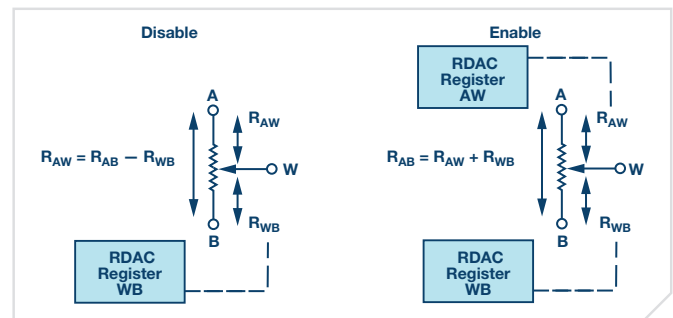

Figure 10. Linear gain setting mode.
- ▶ The new patented linear gain setting mode allows controlling the potentiometer as two independent rheostats,  $R_{AW}$  and  $R_{WB}$ , connected in a single point, W terminal (see Figure 10); this mode is ideal in equations where the output depends on the ratio of two resistors,  $G = R1/R2$ , for example, in an inverting amplifier; this mode can be found in the AD5141, offering a maximum ratio error below  $\pm 1\%$